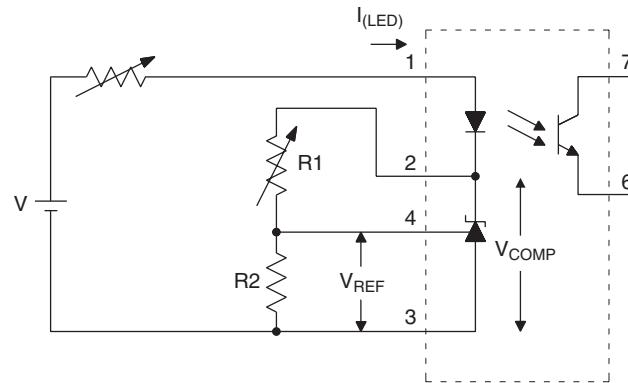

FIG. 2.  $\Delta V_{REF}/\Delta V_{COMP}$  TEST CIRCUIT
2. The dynamic impedance is defined as |ZOUT| = ΔVCOMP/ΔILED. When the device is operating with two external resistors (see Figure 2), the total dynamic impedance of the circuit is given by: